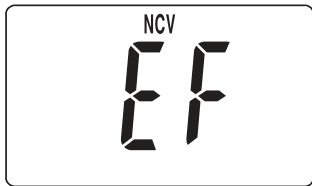

Figure 3
1. Set the rotary switch in NCV position. The display shows " EF " (refer to Figure 3).